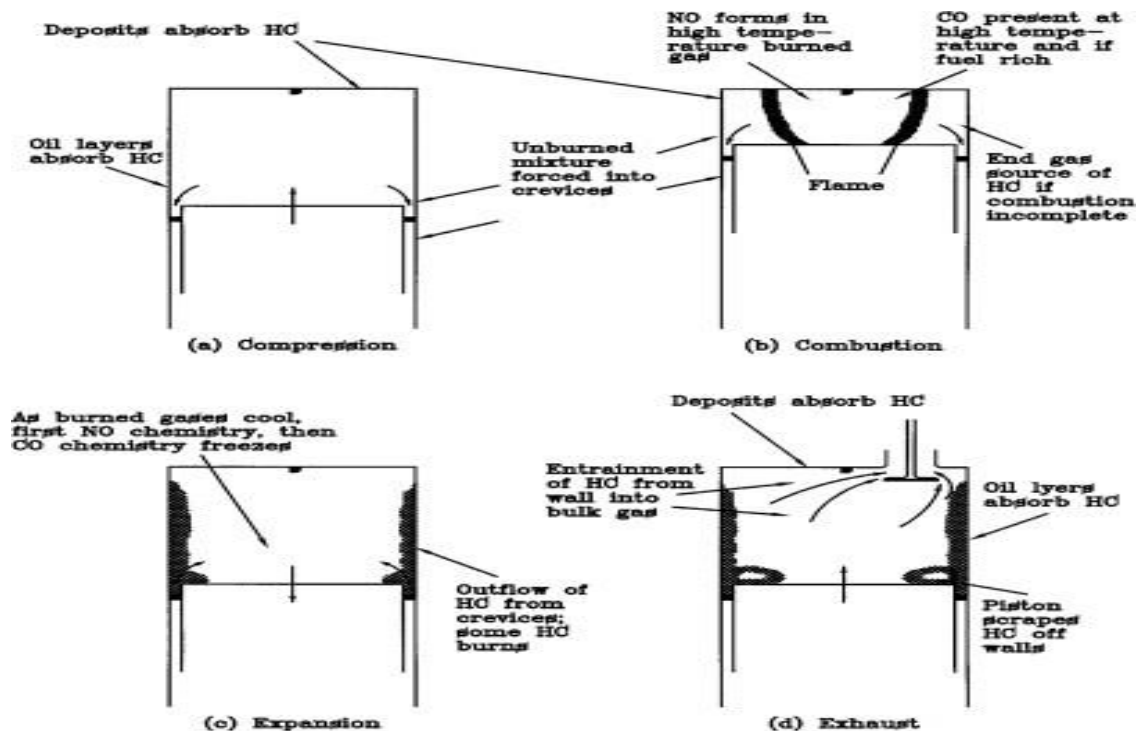

Figure 4 Summary of HC, CO, and NO pollutant formation mechanisms in spark ignition engine
**Lead compounds:** Lead emissions of spark-ignition engines are caused exclusively by lead additives contained in gasoline. Lead is usually found in anti-knock additives based on chlorine and bromine compounds that are used to reduce the high boiling temperature of lead. The use of lead additives is decreasing rapidly as they contaminate the catalytic converters used today. A qualitative illustration of the formation mechanisms of HC, CO and NO in a spark-ignition engine is given in Figure 4 (Heywood, 1988).